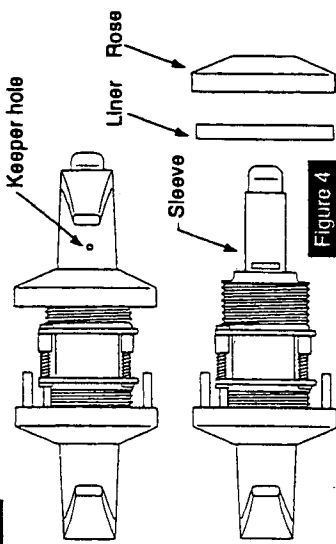

Figure 4
4. Using the spanner wrench handle, gently pry the rose from the liner (see figure 4).